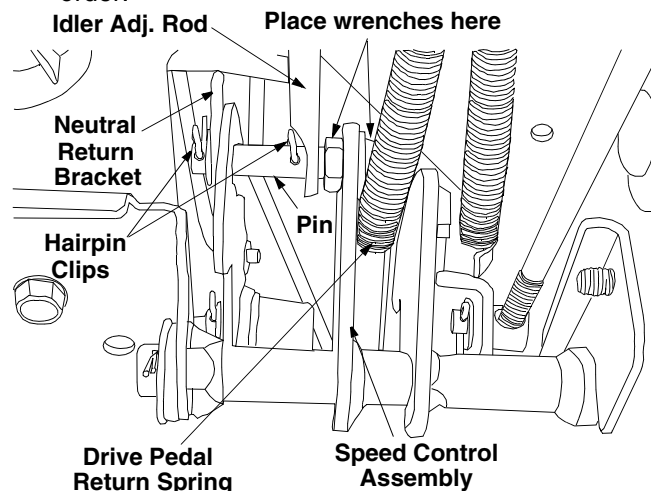

Figure 24
- Remove the drive belt by feeding it from both ends toward the front idler pulley on the double-idler bracket. See Figure 24.
- Locate the speed control assembly on the underside of the steering support bracket. See Figure 24.
- Remove both hairpin clips from the pin which is fastened to the speed control assembly (be careful not to lose the small flat washers found on the pin). See Figure 24.
- Using two 9/16" wrenches, remove the pin from the speed control assembly. See Figure 24.